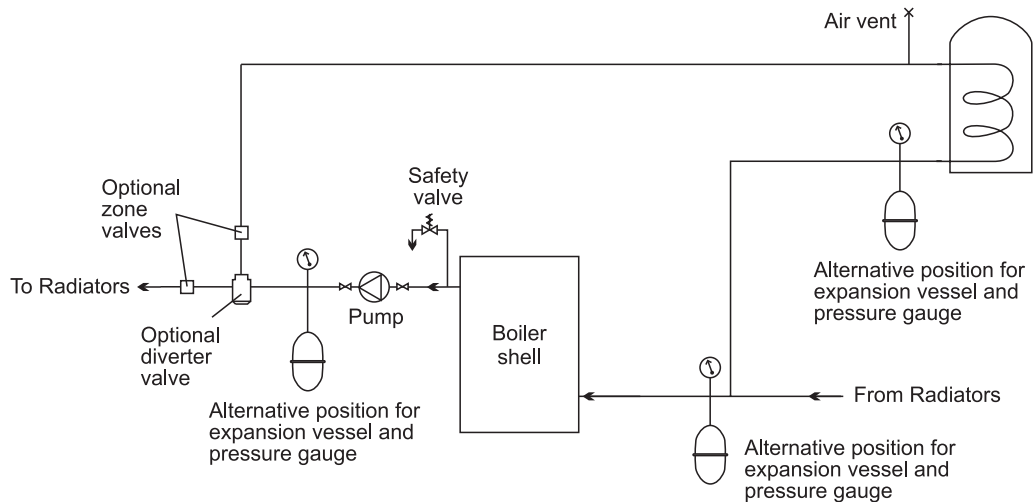

Fig. 12 Sealed system
See Fig. 12
- 3 The expansion vessel can be fitted in either the return or flow pipework in any of the recommended positions as shown in Fig. 12. To reduce the operating temperature of the expansion vessel diaphragm, position it below the pipe to which it is connected. The expansion vessel may be positioned away from the system, providing the connecting pipe is not less than 13 mm diameter.